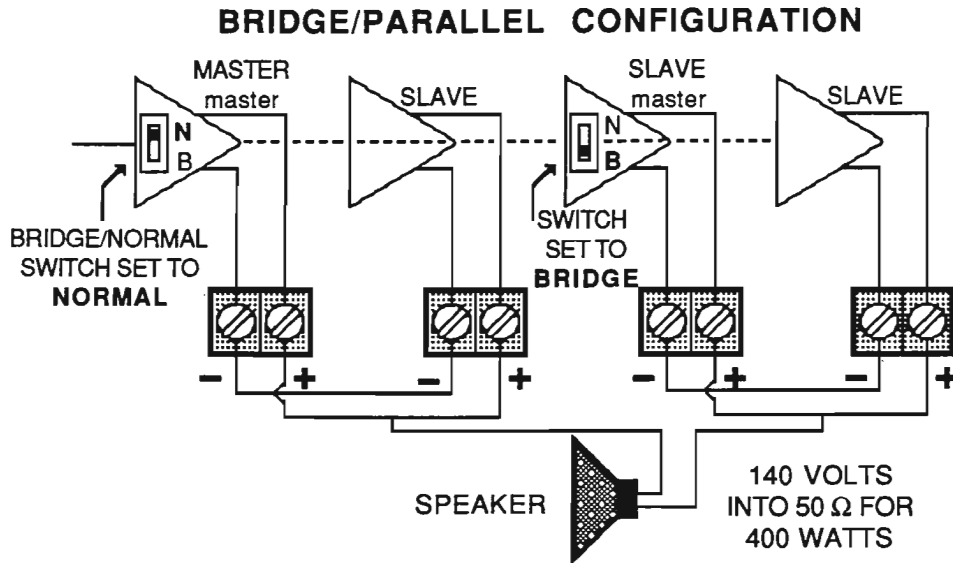

Figure 9
4. The amplifiers are combined in two sets of two. The output terminals of the four amplifiers are connected together as shown in Figure 9 below. Notice that two pairs of paralleled master/slave combinations are simply bridged together.